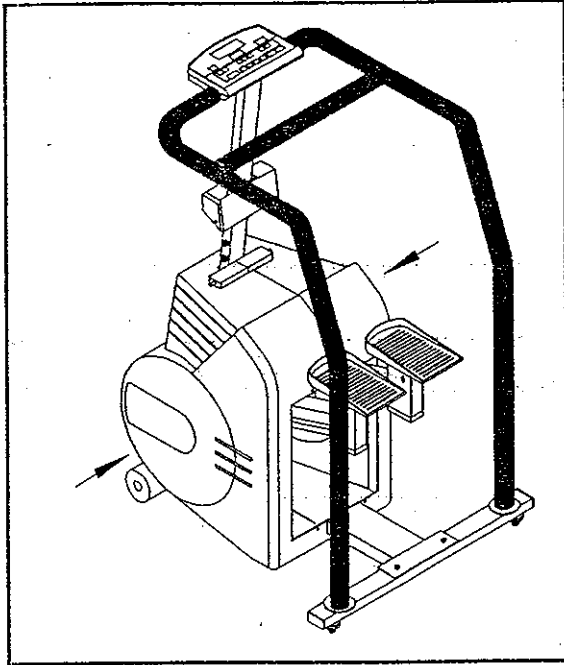

Fig. 18
5. Replace the main shroud and tighten with screws (see Fig. 18 & 19).